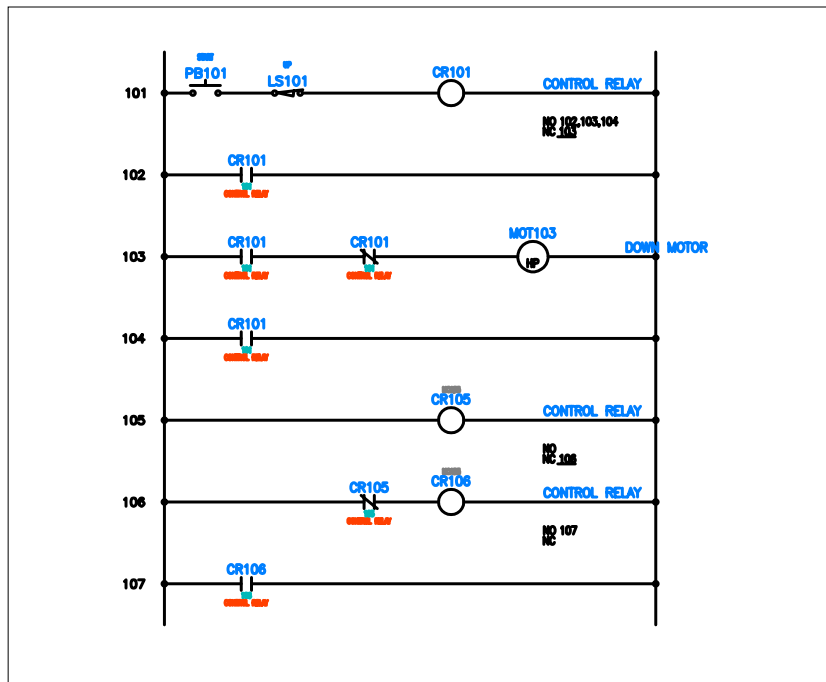

Figure 6-58 The updated drawing
4. Choose the **Skip** button from the **Update Related Components?** message box; the location codes are assigned to the selected components. If the **QSAVE** message box is displayed, choose the **OK** button from it; the drawings get updated and MCAB5 is displayed on the CR105 and CR106, as shown in Figure 6-58.